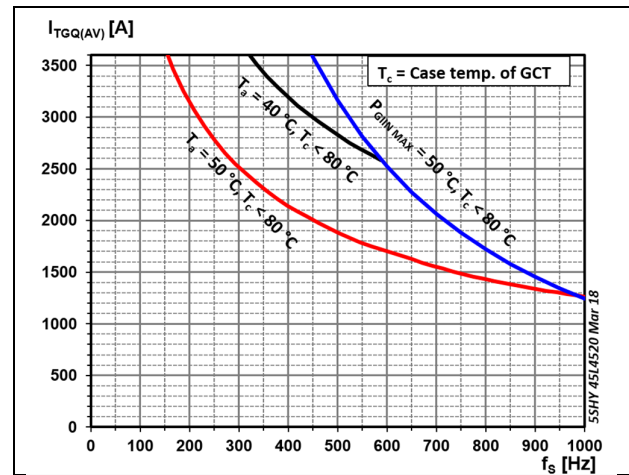

Fig. 2 Max. turn-off current vs. frequency for lifetime operation
**Turn-off switching** (see Fig. 2, 7, 8, 10, 14, 15)**Maximum rated values**1)
### Power supply (see Fig. 2, 9, 10, 12, 13)